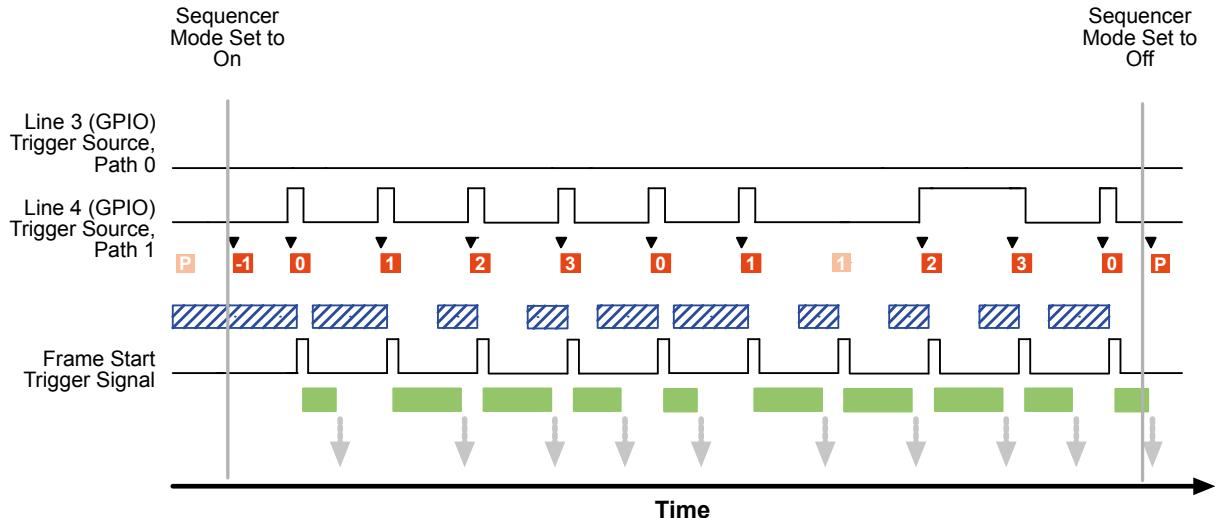

Fig. 89: Use Case 1 - Synchronous Cycling Through Sequencer Sets According to Path 1, No Reset
- As illustrated in Figure 89, the camera must not acquire images when the sequencer feature is enabled. Setting the sequencer mode to On will enable the sequencer feature. When a frame start trigger occurs the sequencer set configured as Sequencer Set Start will be loaded into the active set and will be used for the first image acquisition. Sequencer Set Start will always be sequencer set 0 (see Section 7.7.2.2 on page 219).
Use case one is illustrated in Figure 89 on page 235 and assumes that the following sequencer-related parameter values are set.